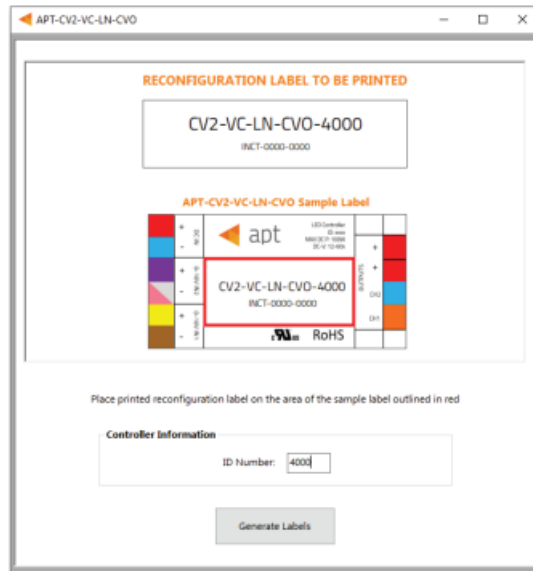

Figure 17: Label Generation window
1. Select File > Generate Label or press Ctrl +L to open the Label Generation window (shown in Figure 17).
2. Input the 4-digit ID Number written on the original label (shown in Figure 17). The ID Number indicates the production build of the APT Controller.